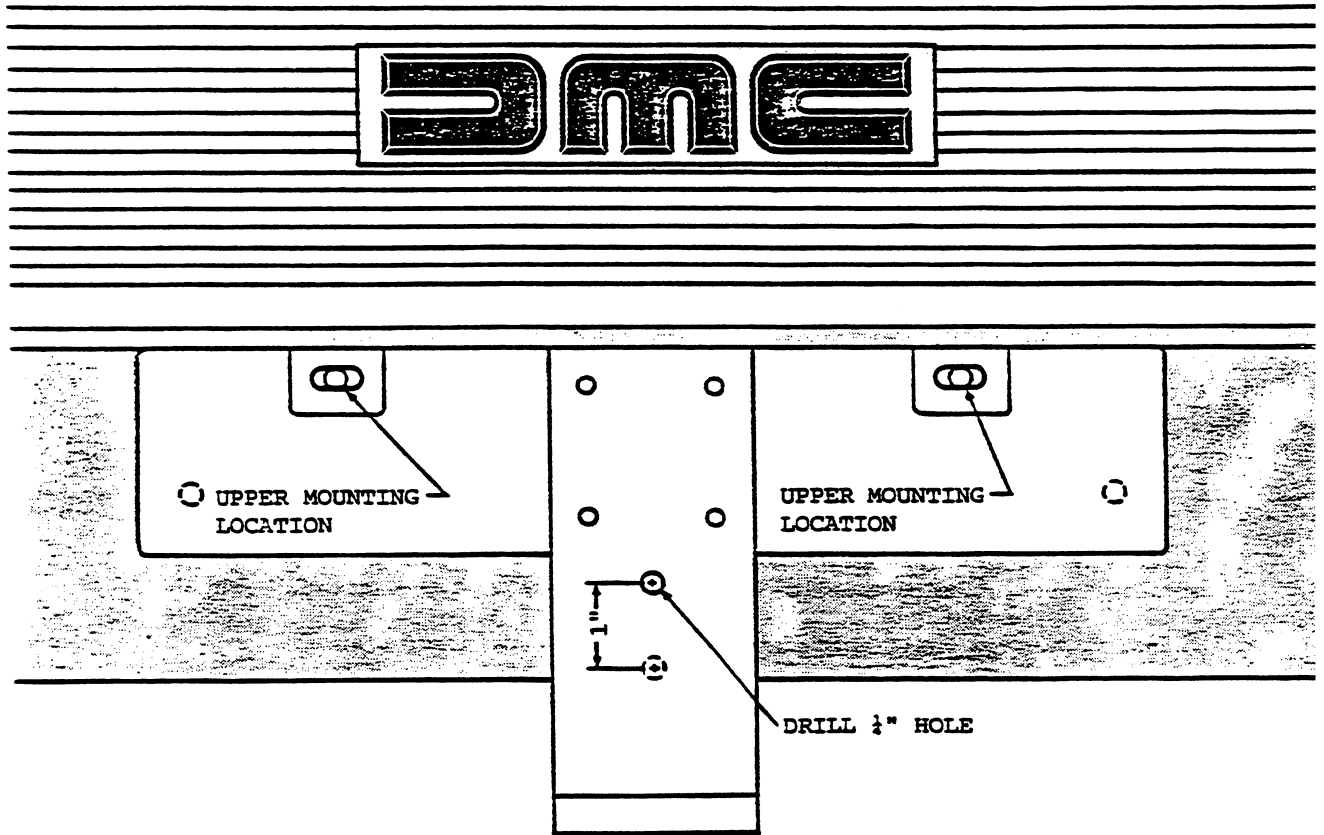

FIGURE 1
- 1) Working on bench, drill one  $\frac{1}{2}$ " hole into the supplied bracket as indicated in figure 1. (see reverse side)
3. Drill 3 holes of appropriate size into the front fascia (using the supplied bracket as a templet) as shown in figure 1. (see reverse side)